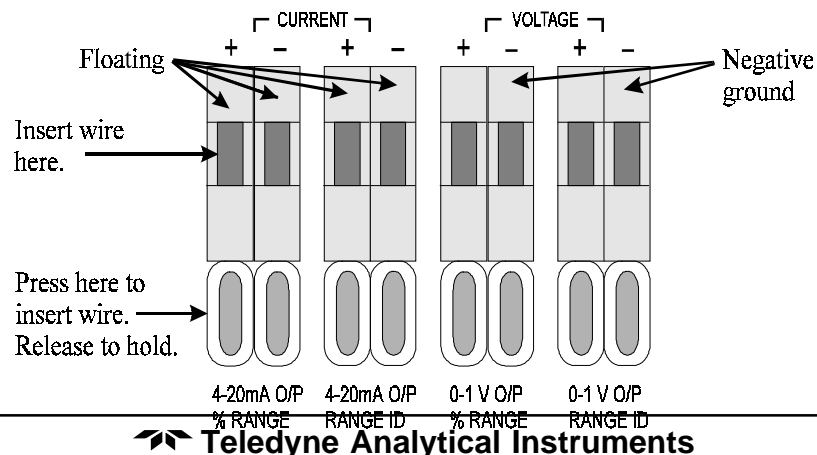

Figure 3-4: Analog Output Connections
**Analog Outputs:** There are four DC output signal connectors with spring terminals on the panel. (Two of them are optional, as explained below.) There are two wires per output with the polarity noted. See Figure 3-4. The outputs are: